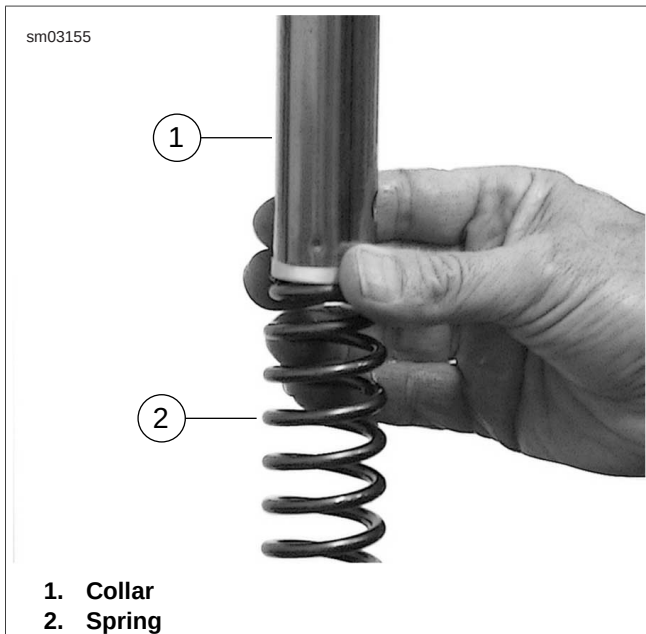

Figure 1-86. Collar and Spring Assembly
12. See Figure 1-86. Fully extend fork and install spring in fork tube (with tightly wound end at bottom), washer and collar.